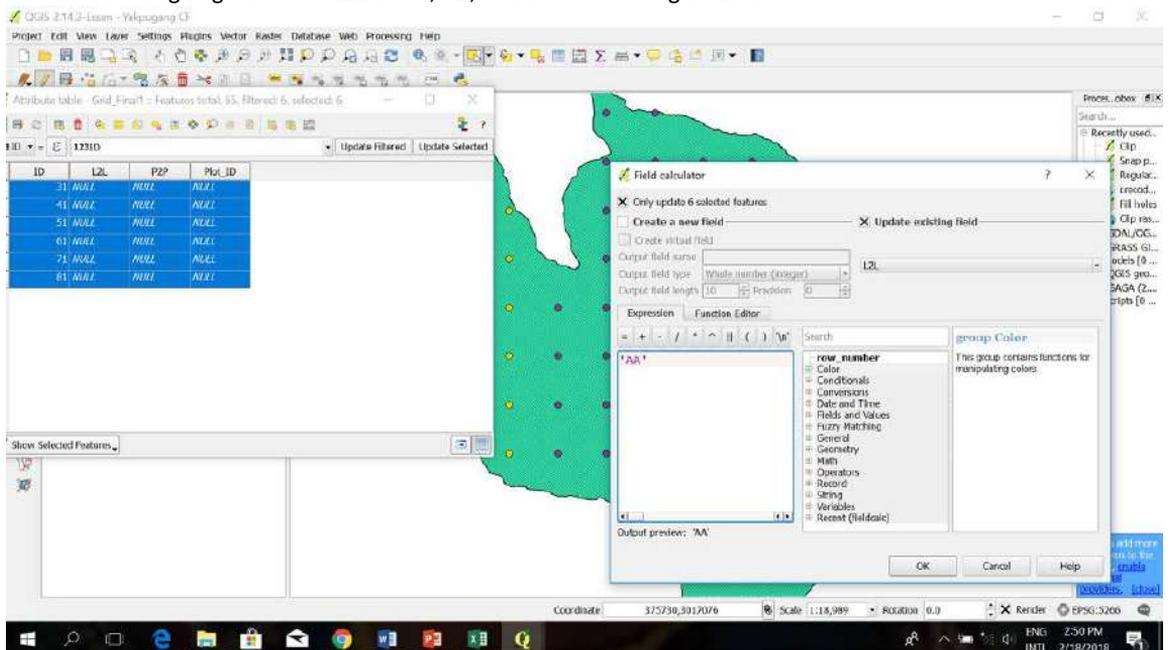

Figure 10c
- Assigning values for L2L as AA, AB, AC...as shown in Figure 10c.